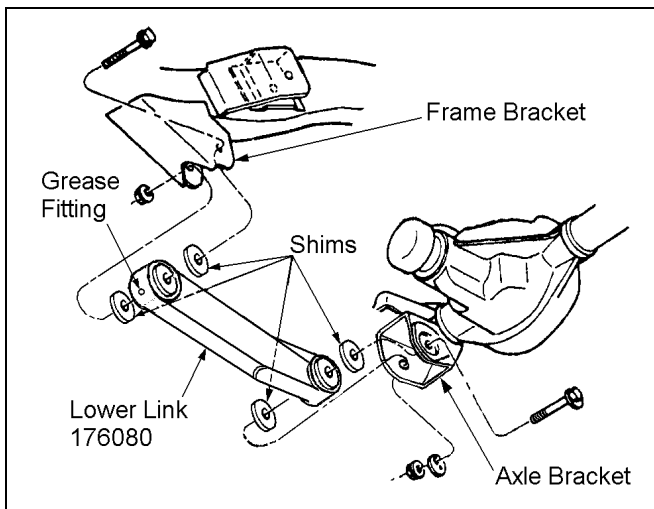

Figure 6
5) Install new Rancho lower link 176080, along with four shims from kit 860070, to the frame and axle brackets as shown in figure 6. Use original hardware but do not tighten.